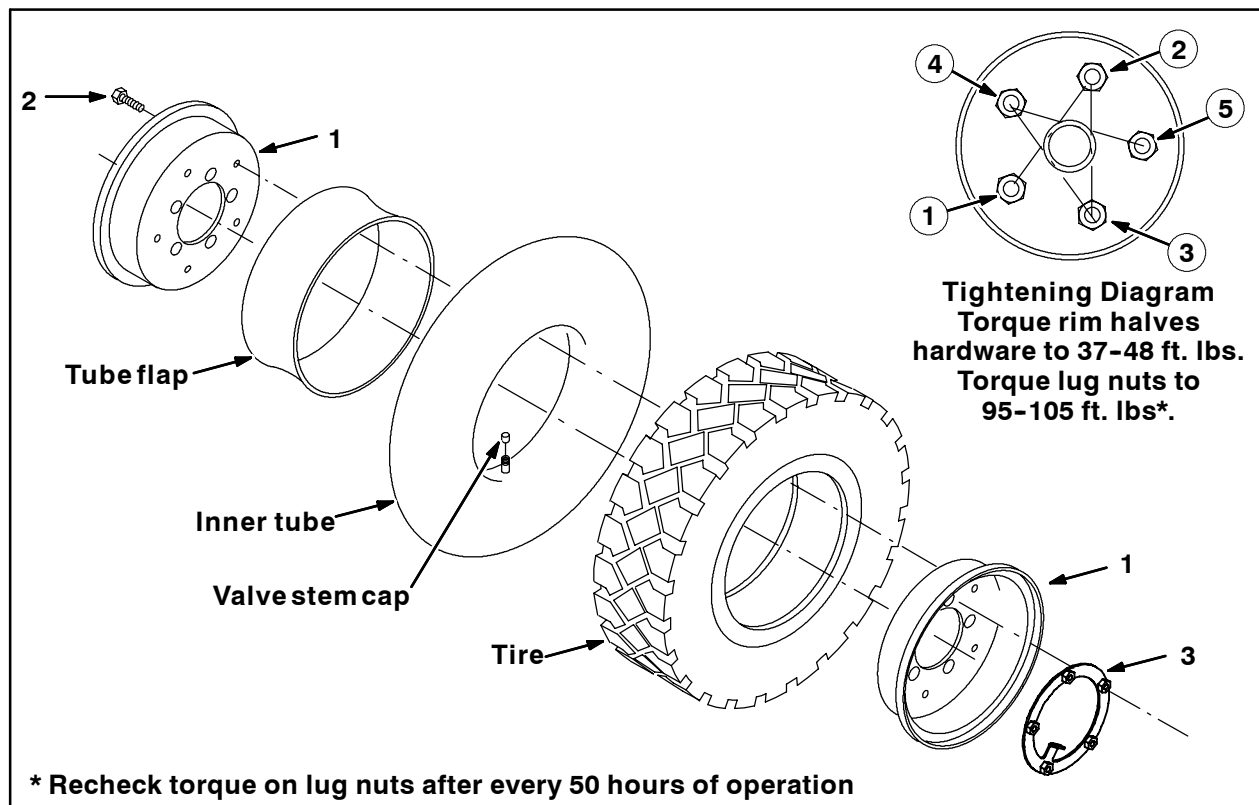

FIG. 3
3. Apply a light coat of adhesive (4) to the threads of the five hex screws (2).
4. Position the tube flap, inner tube, and tire between the inner wheel shell and outer wheel shell of the wheel rim assembly (1) and use the five hex screws (2) and the wheel lock plate (3) to secure the inner wheel shell to the outer wheel shell. Torque to 37-48 ft. lbs. Tighten hardware twice as shown in the Tightening Diagram. Refer to Fig. 3.
6. Use the lug nuts to reinstall the rear tire onto the machine. Tighten lug nuts as shown in the Tightening Diagram in Fig. 3. Torque lug nuts to 95-105 ft. lbs. Recheck torque on lug nuts after every 50 hours of operation.